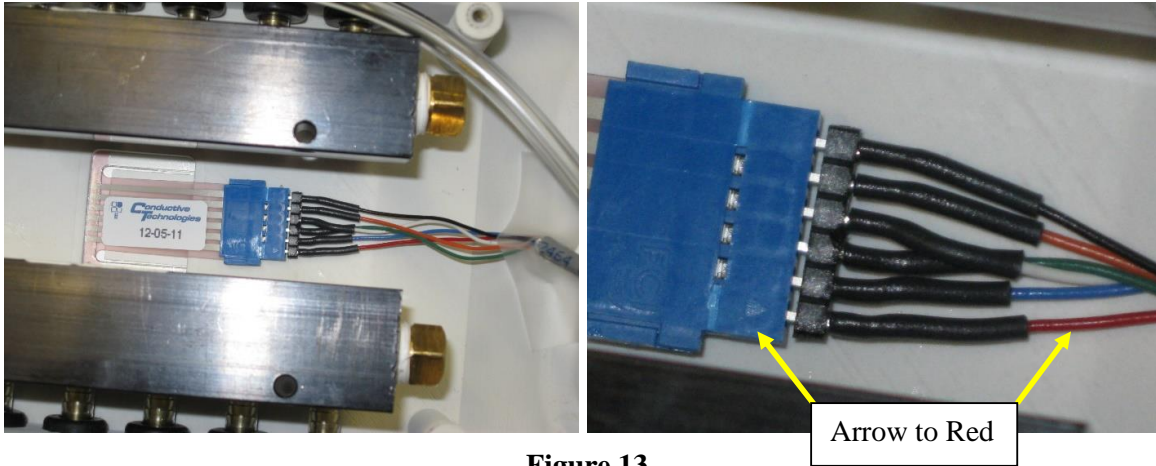

Figure 13
3. Connect the 6-pin connector from the 6-pin cable to the keyboard label connector: pin 1 (with arrow mark) of keyboard label connector to the pin with red wire as shown in Figure 13.